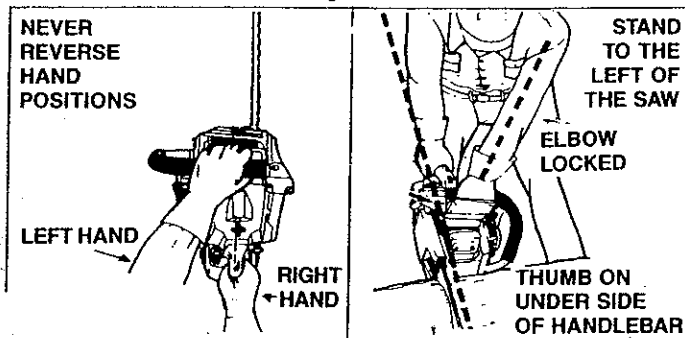

Figure 3
1. Keep a good firm grip on the saw with both hands when the engine is running and don't let go. Figure 3. A firm grip can neutralize kickback and help you maintain control of the saw. Keep the fingers of your left hand encircling and your left thumb under the front handlebar. Keep your right hand completely around the rear handle *whether you are right handed or left handed*. Keep your left arm straight with the elbow locked.
2. Position your left hand on the front handlebar so it is in a straight line with your right hand on the rear handle when making bucking cuts. Figure 3. Never reverse right and left hand positions.
4. Stand slightly to the left side of the saw, to keep your body from being in a direct line with the cutting chain. Figure 3.